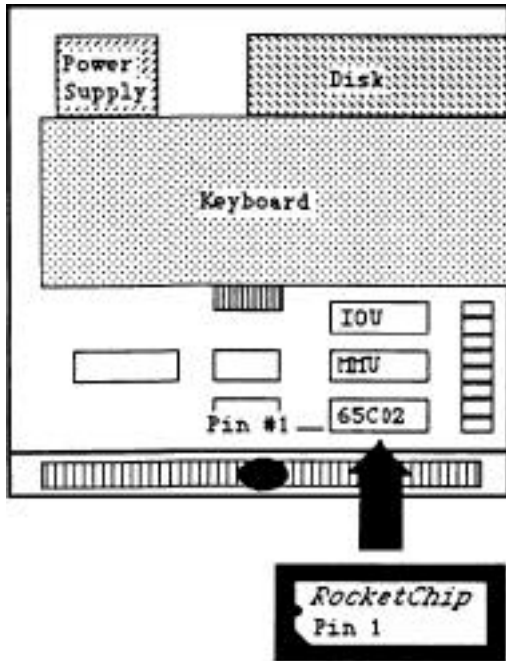

Figure 4 - Apple IIc Motherboard
Grasp the Apple IIc keyboard assembly and gently lift the front edge (about 1/4") and then pull it forward Out of the case (about 1/2") to release the tabs on the back of the keyboard from the slots in the disk drive housing. Do not disconnect the flat cable that connects the keyboard to the computer motherboard. Gently fold the keyboard up and rest it on the computer as shown in Figure 4.
**Important Note for you to read:** Both your original microprocessor and *RocketChip* can be damaged by static electricity, therefore, before touching the 65C02 or removing Rocketchip from the anti-static protective package, it is necessary for you to GROUND YOURSELF by touching the disk drive assembly with your hand to remove any Static electricity. The location of the disk drive is shown in Figure 4
**Touch the disk drive housing.** The location of the 65C02 is shown in Figure 4. Use an IC chip puller tool or a small flatbladed screwdriver to carefully remove the 65002 from the socket on the motherboard. To avoid damaging the 65C02, try to work the part straight out of the socket so that pins do not get bent. If pins do get bent, they can be carefully straightened with long nose pliers.
**Touch the disk drive housing.** Remove the *Rocketchip* from the protective package. Look at Figure 4 and install the *Rocketchip* in the motherboard socket as shown. Please notice that *RocketChip* Pin \*1 is marked and that all of the part number markings for devices on the motherboard and the *Rocketchip* are readable and oriented the same way. Before pushing *RocketChip* fully into the socket, make sure that Pin \*1 is oriented correctly and that all 40 pins of the *RocketChip* are properly aligned in the socket and that they are not bent.